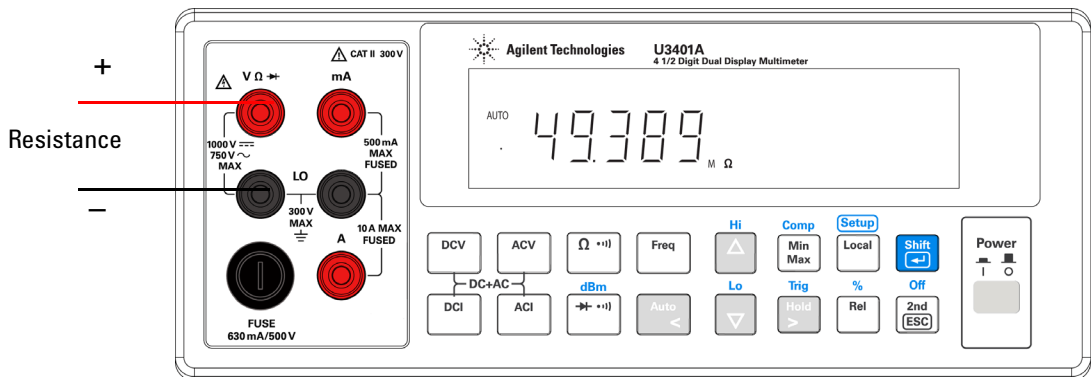

Figure 3-4 Connection terminal when measuring Resistance
- 1 Connect a resistor under test to V Ω $\rightarrow$ and LO input terminals as shown in Figure 3-4.